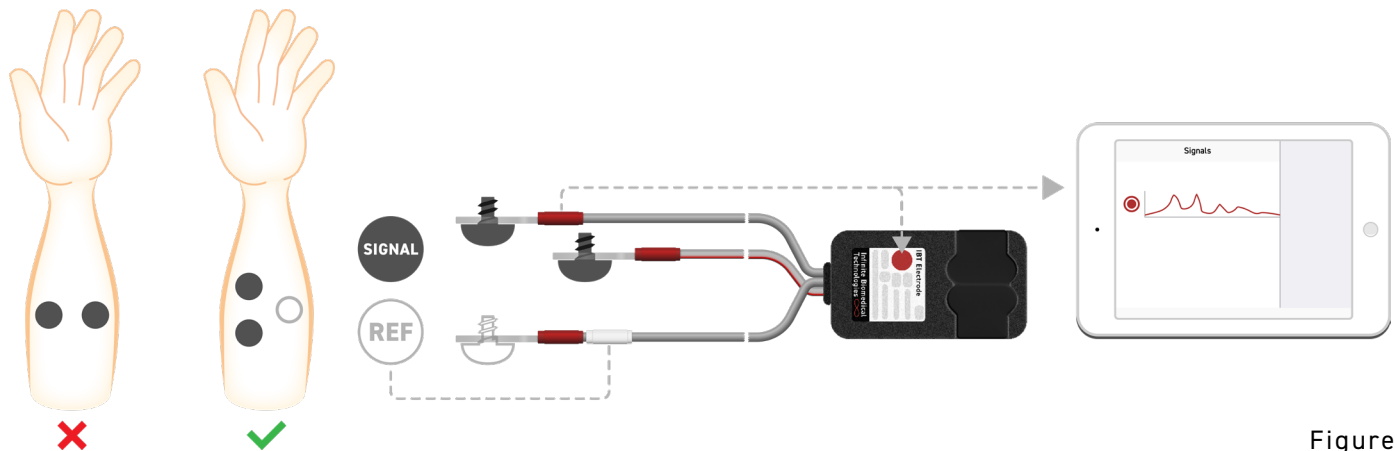

Figure 1
3. Transfer electrode dome sites to plastic and drill holes in correct orientation (Figure 1).
3. Transfer electrode sites to silicone and push the domes through the silicone in correct orientation (Figure 1).
1. Build up sufficient space for all electrode dome assemblies. The minimum space required for the dome assemblies is 7mm (Figure 1).